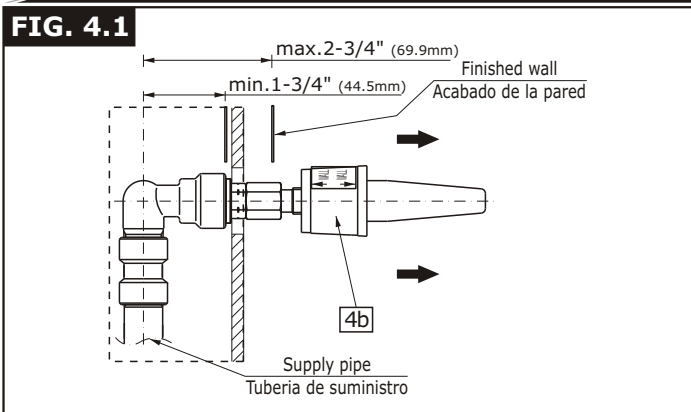

FIG. 4.1
- Remove cap protector (4b) by turning and pulling – see fig. 4.1.